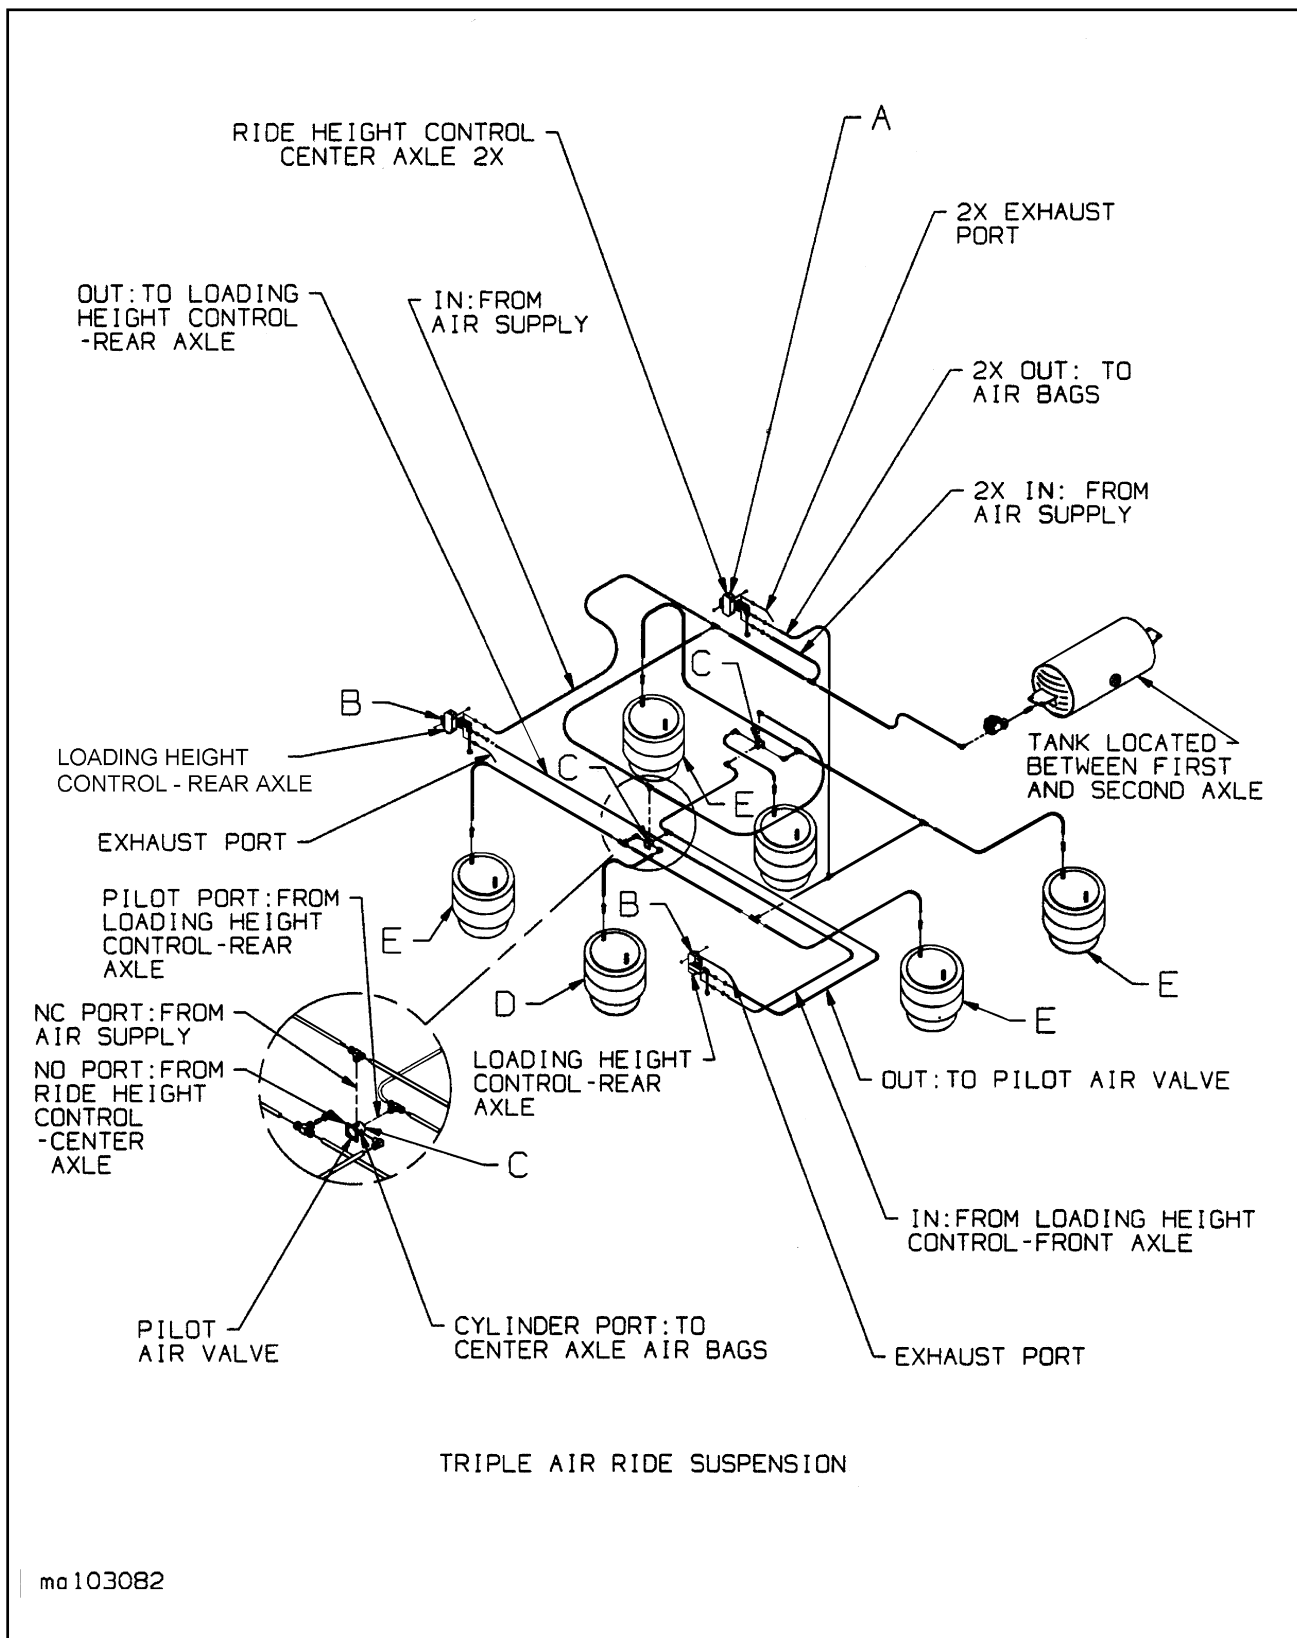

Figure 4-7 Triple Axle Air Ride Suspension System
#### 4-6.4 Triple Axle Air Ride Suspension Adjustment (See Figure 4-7)
- a. When tilting the semitrailer to load position, the ride height control valve (A) on the center axle signal the suspension air spring (D and E) on all axles to deflate. A second and third height control valve (B) on the front and rear axle signals the pilot air valve (C) to isolate and inflate the center axle suspension air springs (D). This arrangement will utilize both center and rear axles to support the semitrailer when tilted for load/unload operation. As the trailer undercarriage is moved to transport position, the pilot air valve (C) reconnects the suspension air springs (D and E) on all three axles together and transfer control of semitrailer ride height to center axle ride height control valve (B). (See Figure 4-7)